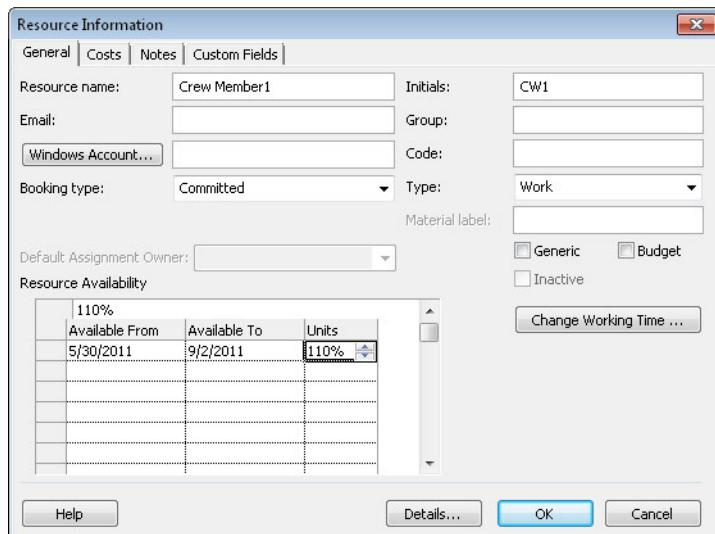

FIGURE 13-5 You can specify a resource's availability at different times.
- **Increase work hours for a period** If resources don't earn premium overtime rates, you can assign longer hours for a period of time. To do this, in the Resource Sheet view, double-click the resource you want to set up for overtime. In the Resource Information dialog box, in the Resource Availability section, specify the start and end date for the overtime and the units, as shown in Figure 13-5.